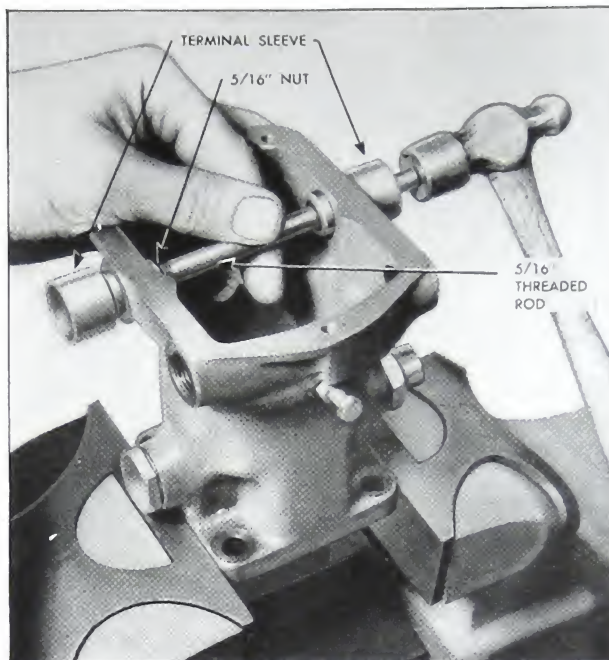

Fig. 5-62. Driving out sleeve
16. The terminal sleeves are pressed into the case. Insert 5/16" threaded rod through one side, screw on a nut, and drive out sleeve. See Fig. 5-62.